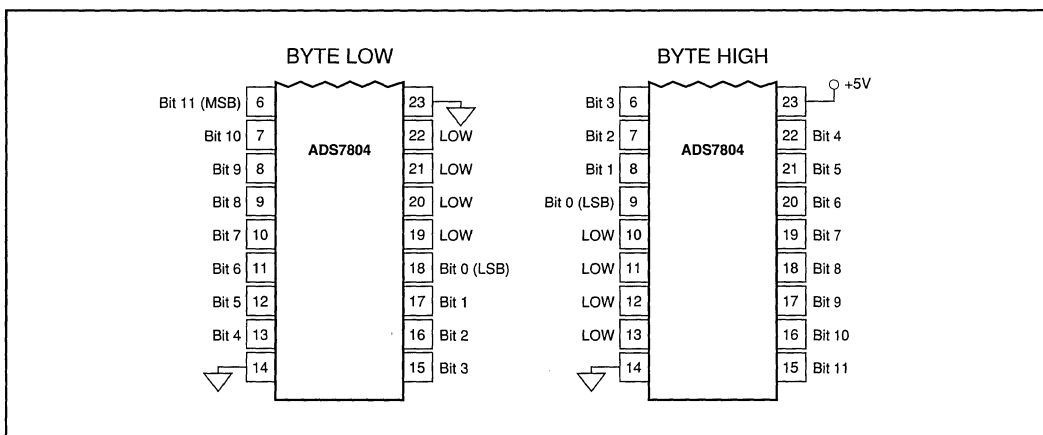

FIGURE 2. Bit Locations Relative to State of BYTE (pin 23).
NOTE: (1) See Figures 2 and 3 for constraints on data valid from conversion "n-1".
The ADS7804 outputs full or byte-reading parallel data in Binary Two's Complement data output format. The parallel output will be active when R/\overline{C} (pin 24) is HIGH and \overline{CS} (pin 25) is LOW. Any other combination of \overline{CS} and R/\overline{C} will tri-state the parallel output. Valid conversion data can be read in a full parallel, 12-bit word or two 8-bit bytes on pins 6-13 and pins 15-22. BYTE (pin 23) can be toggled to read both bytes within one conversion cycle. Refer to Table III for ideal output codes and Figure 2 for bit locations relative to the state of BYTE.